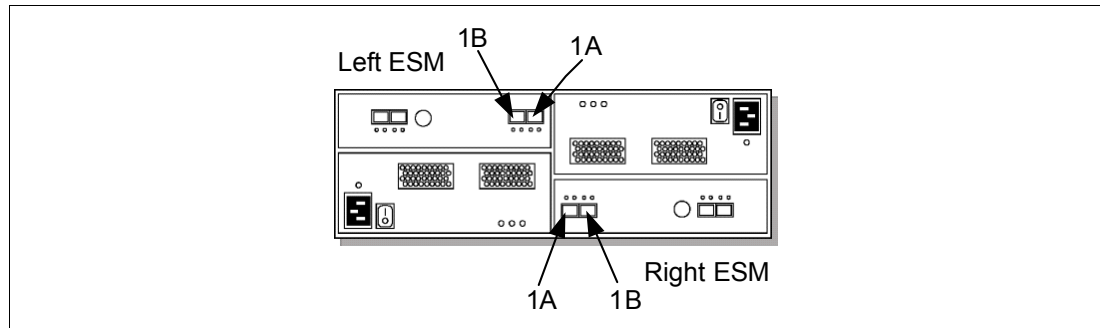

Figure 2-73 Port labels on EXP5000
- The DS5000 controller drive port must always be connected to the expansion enclosure port labelled 1B. Because the left and right EXP5000 ESMs (ESMs A and B) or top and are inserted in the ESM bays in different orientations, ensure that you use the port labeled 1B, as shown in Figure 2-73. Port 1A is used to daisy-chain the next expansion units, which we refer to later in this section